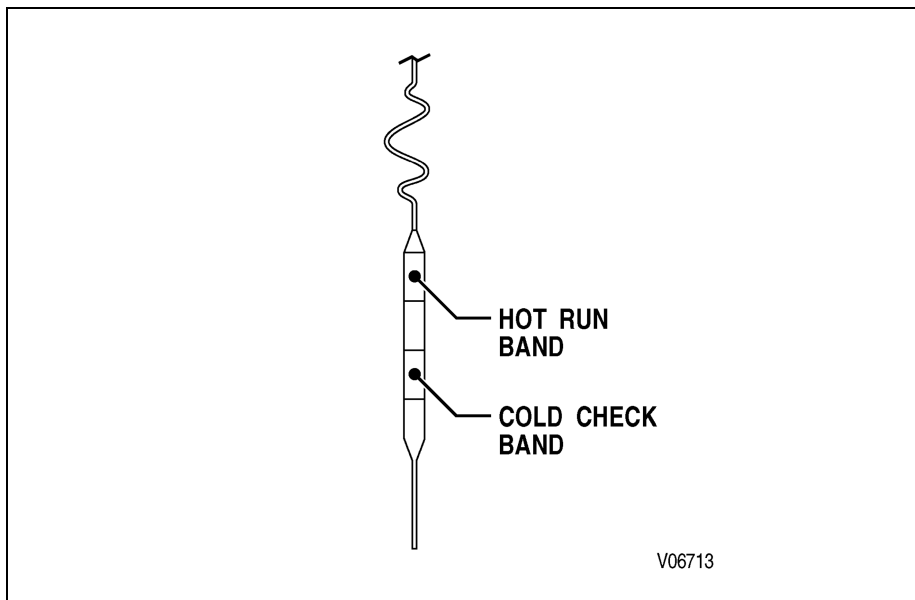

Figure 5–1. Typical Dipstick Markings
9. If the fluid level is within the “COLD CHECK” band (refer to Figure 5–1), the transmission may be operated until the fluid is hot enough to perform a “HOT RUN” check. If the fluid level is not within the “COLD CHECK” band, add or drain as necessary to bring it to the middle of the “COLD CHECK” band.
NOTE: Safe operating level is within the “HOT RUN” band on the dipstick (refer to Figure 5–1). The width of the “HOT RUN” band represents approximately 1.0 liter (1.06 quart) of fluid at normal operating sump temperature.